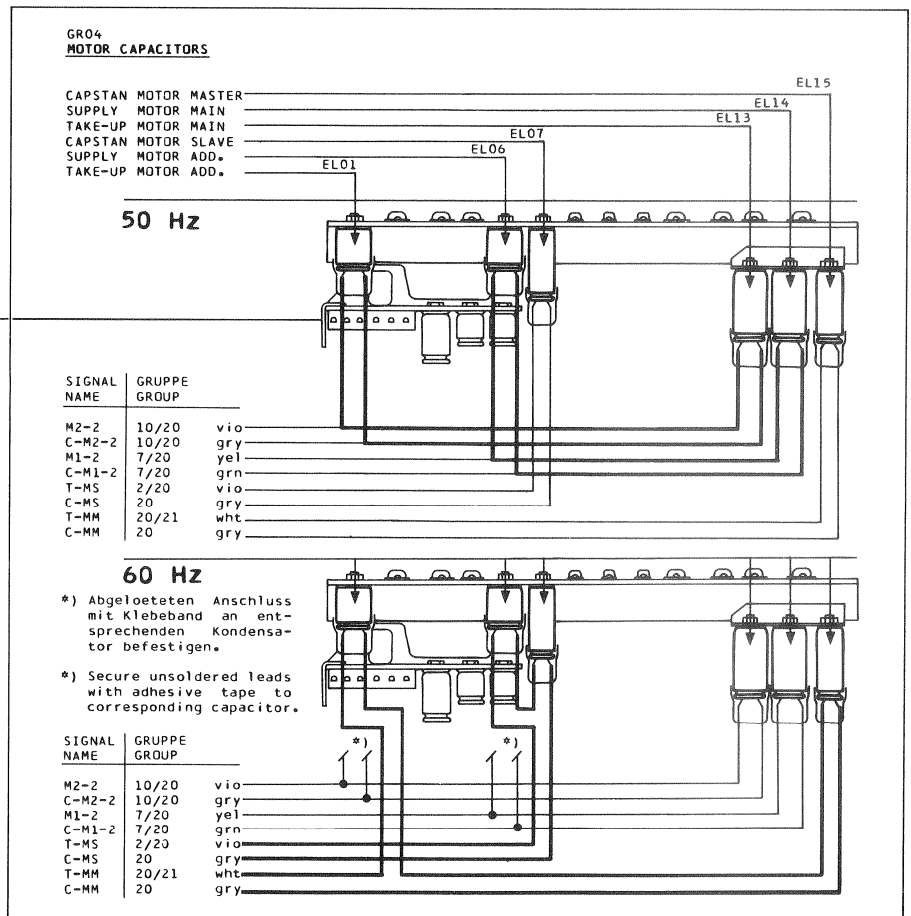

Fig.2.2
- Check wiring of the phase-shift capacitors -> Fig.2.2